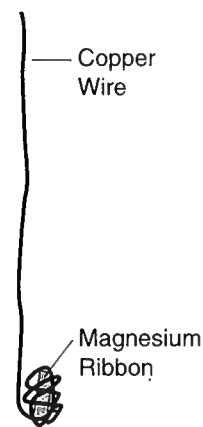

Figure 2.
4. Obtain a piece of copper wire about 15-cm long. Twist and fold one end of the copper wire around a pencil to make a small "cage" into which the magnesium ribbon may be inserted. See Figure 2.